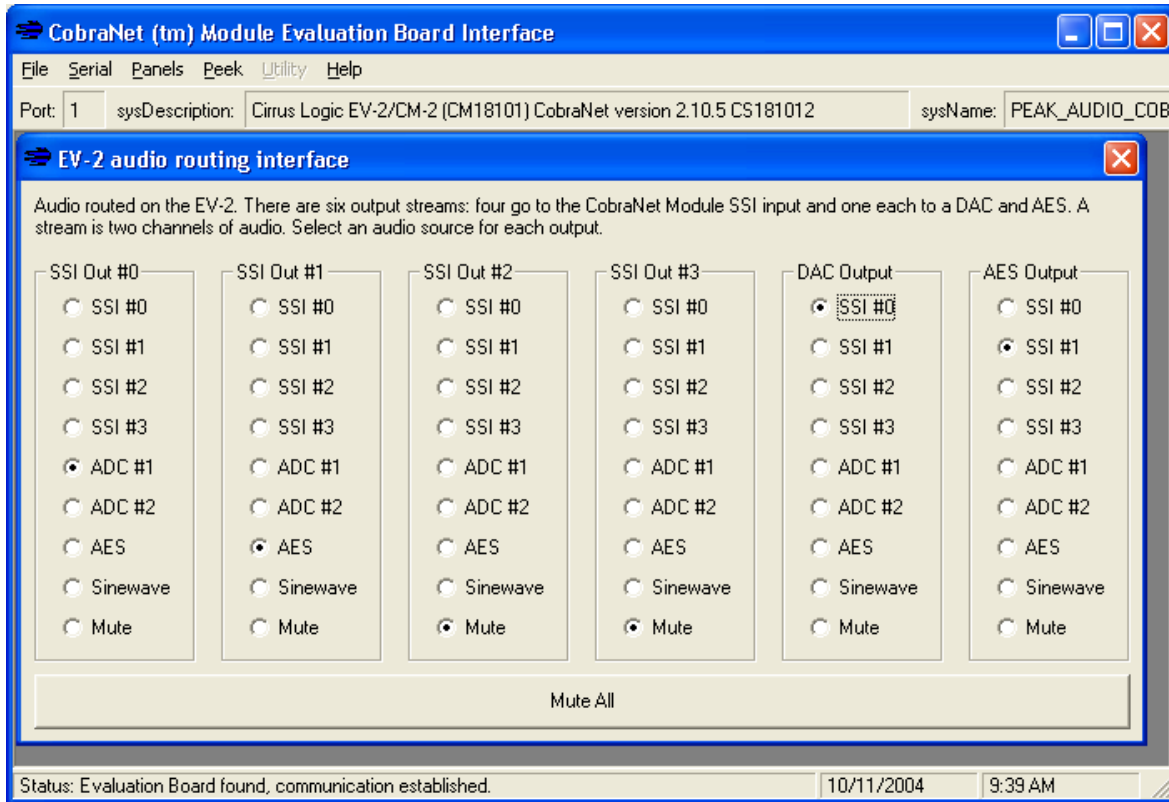

Figure 5. Screen Shot of EV-2 Software - Audio Routing Interface
- Once communication is established, the routing can then be configured. (See *Figure 5* below for an example of a routing scheme.)